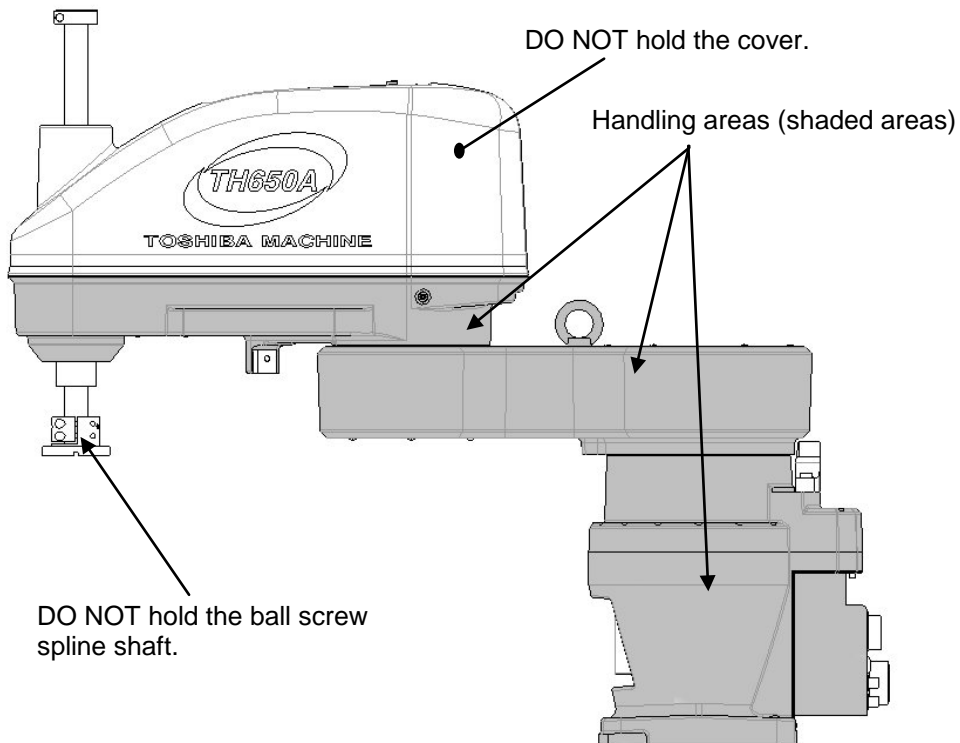

Fig. 2.4 Robot handling areas (shaded areas)
- When lifting up the robot by workers, hold the locations (shaded areas) by hands as shown in Fig. 2.4. If the arm 2, cover or ball screw spline shaft is held by hands, an unusually large force is exerted, resulting in a malfunction.
- The work should be performed by two (2) or more workers.